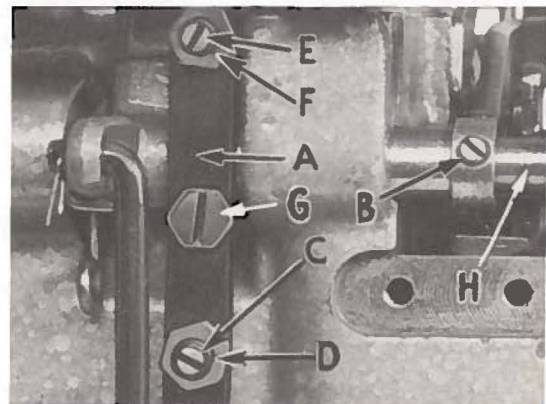

Fig. 17
that the bottom of the presser foot be flat on the throat plate. If necessary, presser foot can be realigned with throat plate slots by shifting the foot lifter lever shaft (H, Fig. 17). To move the shaft, loosen collar screws (B, Fig. 17) and clamp screw (G) and then shift the foot lifter lever shaft to the left or right as required. Retighten collar screws and clamp screw.
The foot lifter lever arm (A, Fig. 17) and the collar (B) secure the shaft. Be sure the presser arm does not bind and rise when presser foot release bushing is unlocked.